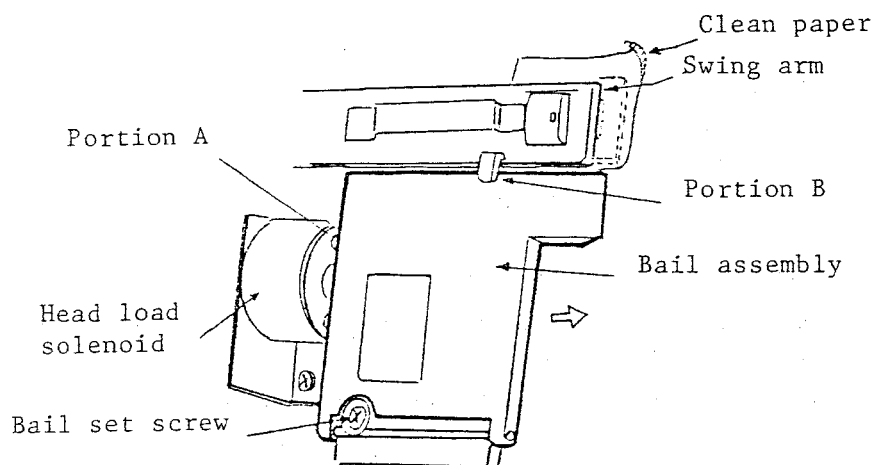

Fig. 4.9 Head Load Bail Assembly
(1) Tools and measuring instruments to be used:
(2) Disassembling
- (d) Remove a bail set screw (M4 × 1), and pull out the bail assembly in the arrowed direction (Fig. 4.9). At this time, hold portion B of the head swing arm by hand to keep the head from any impact.
(3) Assembly
(4) Adjustment